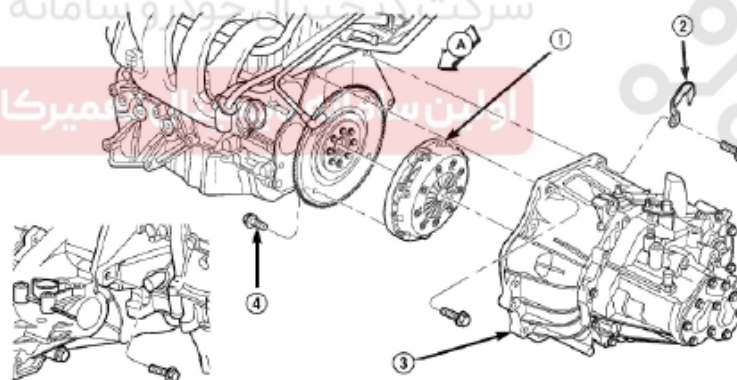

Figure 3-34 Disassembly/assembly of transaxle — 1.6L
(22) Put the engine and transaxle on the screw jack carefully for proper space for disassembly.
(23) Unscrew the fixing bolt for transaxle and engine and fasten the transaxle (Figure 3-34).
(24) Remove the transaxle out of the vehicle (Figure 3-34).